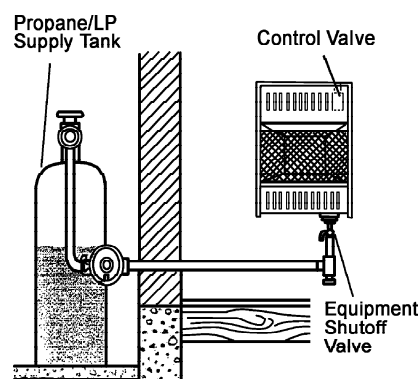

Figure 16 -Checking Gas Joints
3. Check all joints from propane/LP supply tank to equipment shutoff valve (see Figure 16). Apply mixture of liquid soap and water to gas joints. Bubbles forming show a leak.
4. Check all joints from equipment shutoff valve to control valve (see Figure 16). Apply mixture of liquid soap and water to gas joints. Bubbles forming show a leak.